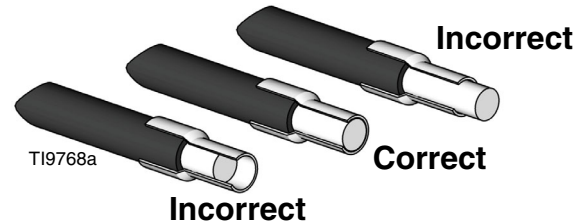

FIG. 2: Wire Length
- a. Make sure strip length is correct by fitting ferrule (4) over the exposed wire. Ferrule should be flush with wire end. See FIG. 2.
- b. If wire is short of ferrule (4) end, adjust strip length accordingly. If bare wire is protruding from ferrule, trim flush to ferrule end. See FIG. 2.